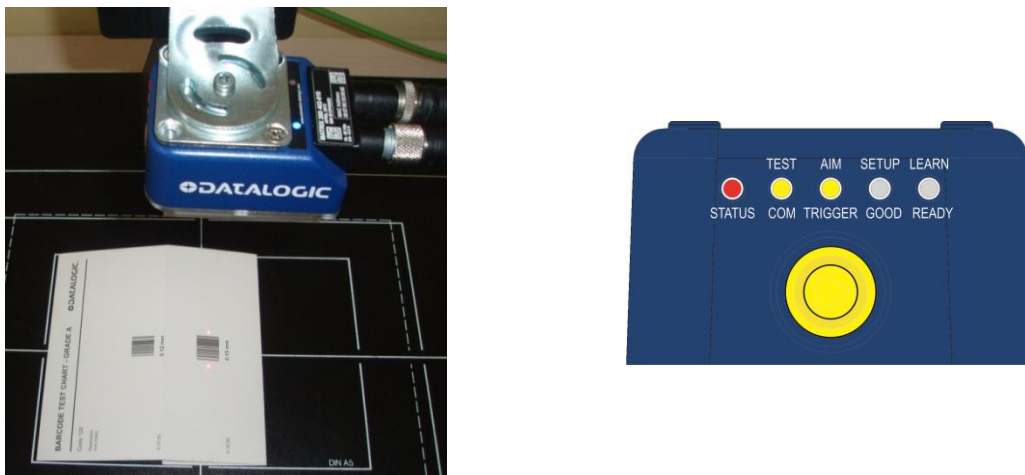

Figure 4 – X-PRESS Interface: Aim/Autofocus Function
4. Release the button to enter the Aim function. The laser pointers turn on, and the Autofocus procedure begins, see Figure 4. The Aim LED will blink until the procedure is completed.